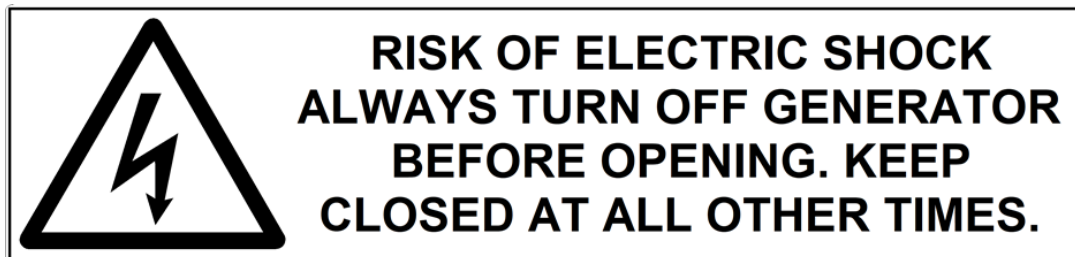

Fig.7
**Fig.7** can be found on the canopy roof near the lifting handle.